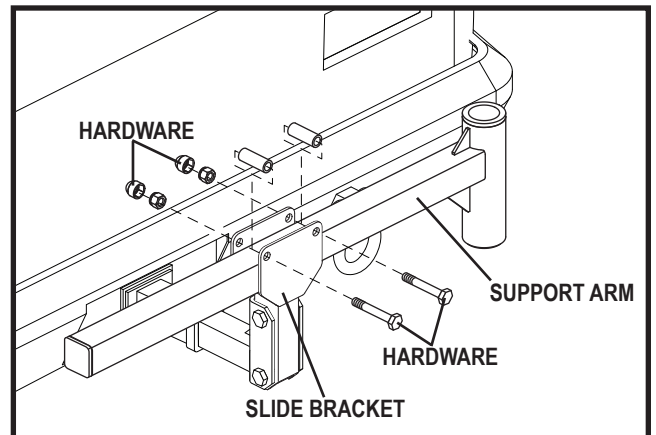

Figure 12. Support Arm Installation
5. Remove hardware from slide bracket. Place the support arm into the slide bracket, and reinstall the hardware. **See figure 12.**